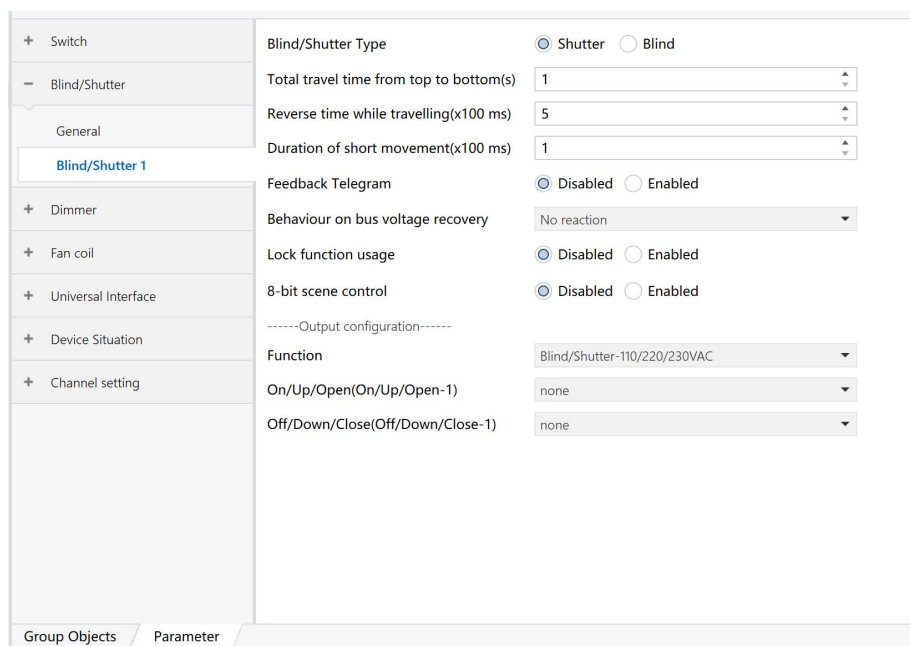

Figure 6.2.2
2) As shown in Figure 6.2.2, after the fan is enabled, the function configuration of the fan will appear on the right. The following takes Blind Shutter 1 as an example